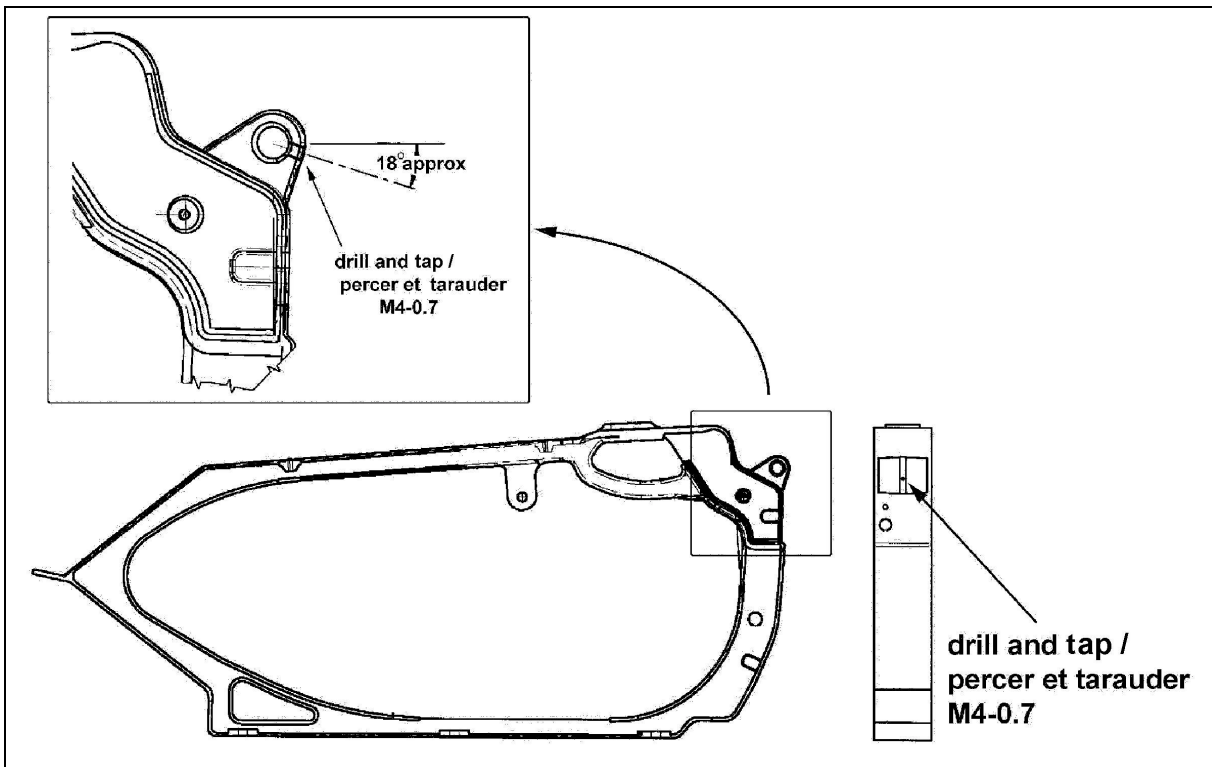
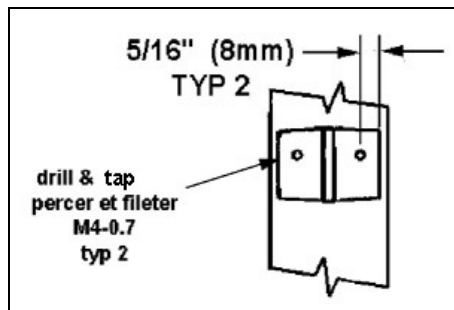

FIGURE 2: DRILLING AND TAPPING OF THE POST
FIGURE 4: DETAIL OF POST WITH 3"-ROD PIVOT
3. **REPLACEMENT OF TWO ADJOINING 6"-ROD PIVOT DOORS.** Install the new doors using the existing pivots and nylon bushings only. Drill and tap the post located between the doors and use screw #500587 to lock on the pivot in place. See figure 2 and 3.
4. **REPLACEMENT OF 3"-ROD PIVOT DOORS.** When replacing a 3"-rod pivot door type, it is recommended to use a 6"-rod pivot (#313676) instead of the two existing 3"-rod pivots. In that case, drill and tap the post as shown on figure 2. It may be necessary to drill through the existing pivot hole in order to have the 6"-rod pivot to pass from end to end of the post. Use screw #500587 to lock on the pivot in place. It is not possible to use a 6"-rod pivot for the door located on the rear left side of the vehicle, in that case, install the new door using the existing pivot and nylon bushing only. Drill and tap the post as shown on figure 4 and 5. Use screw #500587 to lock on the pivot in place.